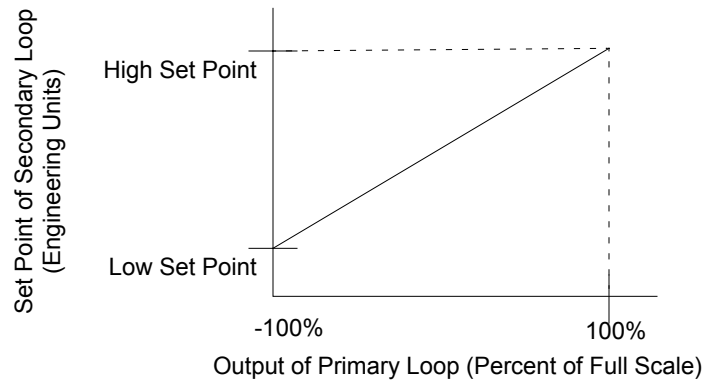

Figure 4.9 *Secondary Set Point When Primary Loop Has Heat and Cool Outputs*
- If the primary loop has both heat and cool outputs, then the set point of the secondary loop is equal to the *Cascade low SP* parameter when the cool output is at 100 percent, and is equal to the *Cascade high SP* when the heat output is at 100 percent. See Figure 4.9.